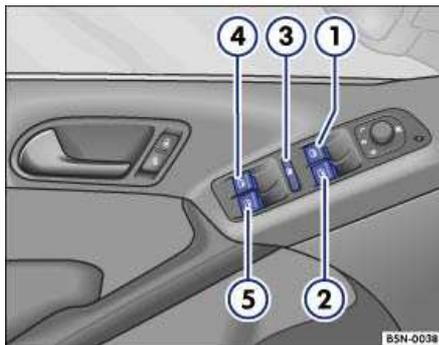

Fig. 28 Driver's door power window controls.
- Press the  button down to open a window ⇒ Fig. 28.